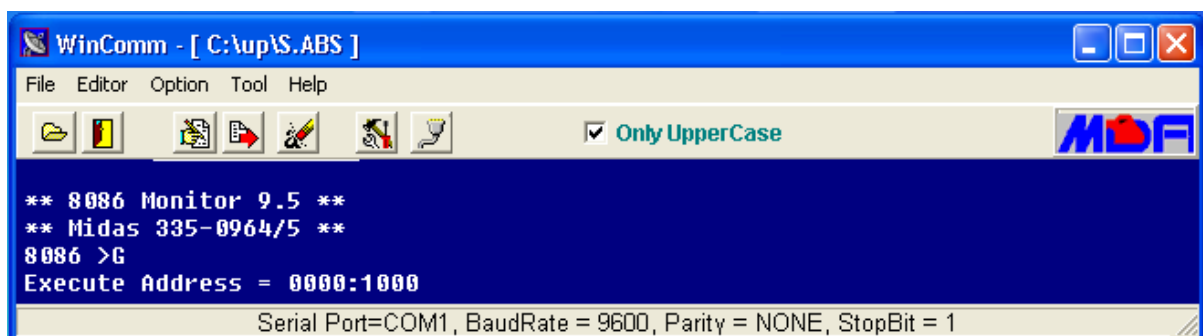

Fig. 1.11 Executing a program into the MDA-8086 trainer from WinComm
- c) Type G and Press Enter. The HEX program will run from 0000:1000H location on the MDA-8086 trainer and echoed on the WinComm window as shown in Fig. 1.11.